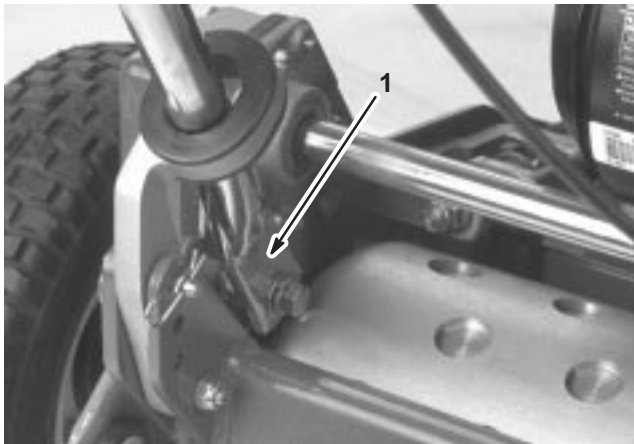

Figure 2
6. Squeeze the handle ends inward and install them on the mounting pins (Fig. 2).
7. Secure the handle ends to the mounting pins with the capscrews, washers, and lockwashers previously removed (Fig. 2).
8. Secure the bottom of handle arms to each side of the mower with the capscrews and locknuts previously removed (Fig. 2). Ensure that you install the bushings in the handle arm mounting holes.
9. Secure the handle arms to the rear of the frame with the hairpin cotters and ring pins previously removed (Fig. 2).